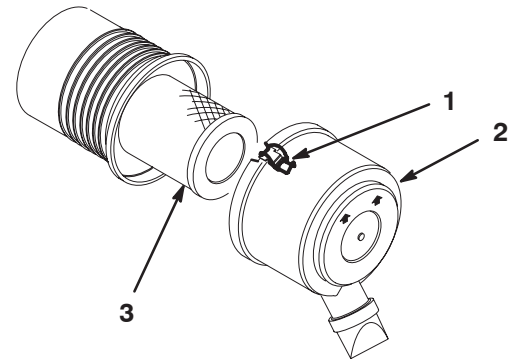

Figure 19
1. Release the latches securing the air cleaner cover to the air cleaner body (Fig. 19). Separate the cover from the body. Clean the inside of the air cleaner cover.